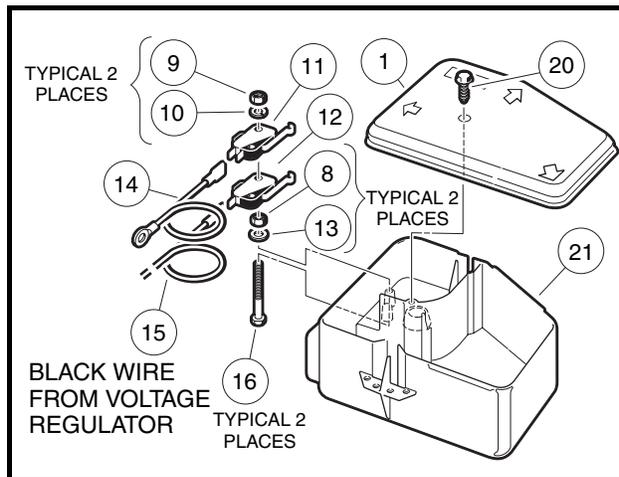

Figure 12-17 Accelerator Pedal and Kill Limit Switches
2. Remove electrical component box cover (1) (**Figure 12-17, Page 12-16**).
3. Disconnect the green wire and the orange wire from the accelerator pedal limit switch (11) (**Figure 12-17, Page 12-16**).
4. Remove the two nuts (9) and washers (10) that secure the accelerator limit switch in place.
1. Install the accelerator pedal limit switch (11) onto the two screws (16) and secure the switch using two washers (10) and nuts (9). Torque to 5 in-lb (0.6 N·m) (**Figure 12-17, Page 12-16**).
2. Connect the green wire to common (COM) terminal and the orange wire to the normally closed (NC) terminal of the accelerator pedal limit switch (**Figure 12-17, Page 12-16**).
3. Remove the two nuts (9) and washers (10) securing the accelerator pedal limit switch (11). Do not disconnect the wires attached to switch (**Figure 12-17, Page 12-16**).
4. Disconnect the two white/black wires and the black wire from the kill limit switch (12).
5. Remove the kill limit switch (12).
1. Install the kill limit switch (12) onto the two screws (16) (**Figure 12-17, Page 12-16**).
2. Connect the two white/black wires to the common (COM) terminal and the black wire to the normally open (NO) terminal of the kill limit switch (12).
3. Install the accelerator pedal limit switch (11) onto the screws (16). Secure the switch with washers (10) and nuts (9). Tighten to 5 in-lb (0.6 N·m).